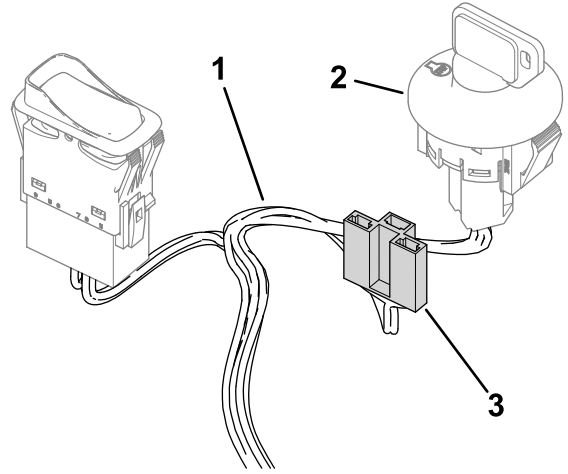

Figure 4
4. Locate the main wire harness leading to the key switch and the hour-meter connector affixed to the harness (Figure 4).